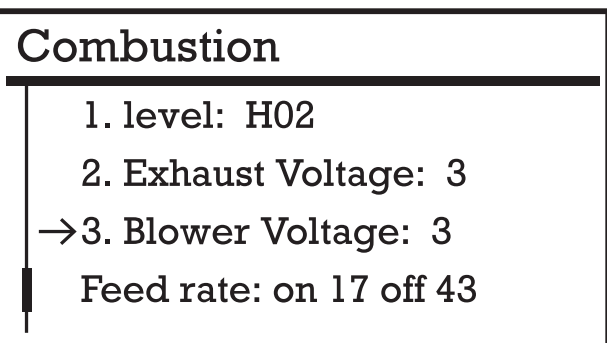

Figure 25
2. Using the **SCROLL DOWN** key, move down to option 3: **"FAN SETTINGS"**. Press **ENTER** again to move into the **"COMBUSTION"** screen. **SEE FIGURE 25.**